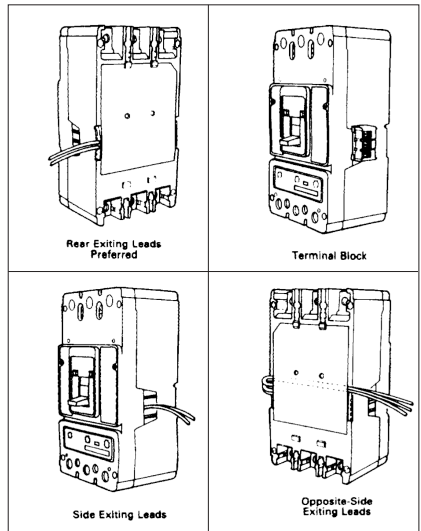

Fig. 2-2. Accessory Wiring Options
- 2-4. Route wiring to meet installation requirements. (Fig. 2-2)